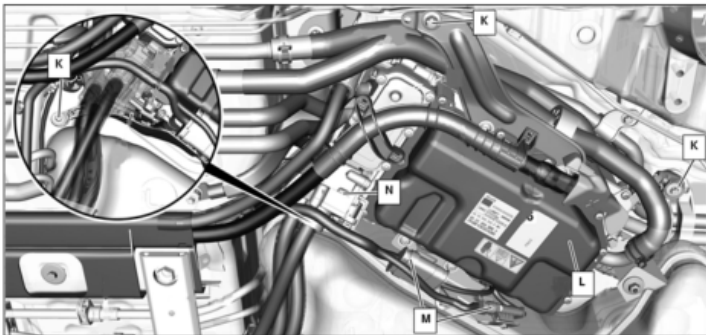

Figure 3 (example illustration on model 213 with OM654)
8. Expose power electronics (**L, Figure 3**), release and lower.
9. Expose high-voltage plug (**N, Figure 3**) of high-voltage wiring harness on power electronics (**L, Figure 3**), detach and remove.